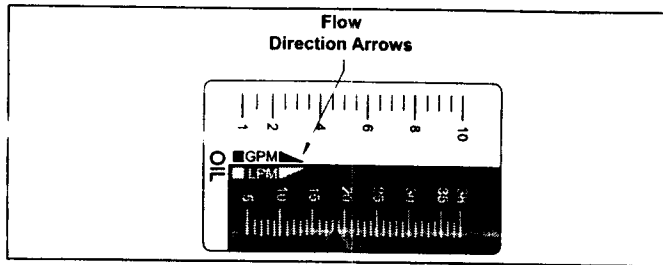

Figure 5. Flow Direction Arrows
Do - Ensure the fluid is traveling in the direction of the flow arrow (Figure 5).
4. Mount the transmitter so fluid is traveling in the direction of the flow arrow. See Figure 5.